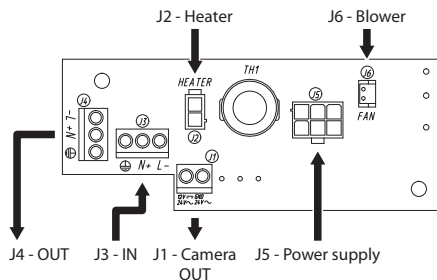
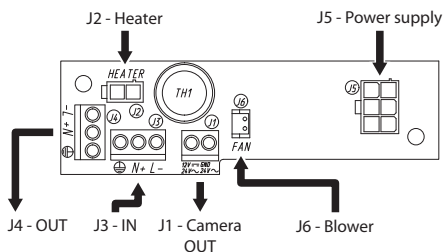

Fig. 05 VERSO.
Fig. 06 VERSO COMPACT.
Remove the conductors protective sheathing and connect them to terminal J3 (Fig. 05, page 8 and Fig. 06, page 8).
Insert the 2-pin connector at the end of the cable into the correspondent support circuit socket, identified by J2 HEATER (Fig. 05, page 8 and Fig. 06, page 8).
Insert the 6-pin connector at the end of the cable into the correspondent one on the support circuit, identified by J5 (Fig. 05, page 8 and Fig. 06, page 8).
**⚠ The blower kit should be assembled according to the instructions (Fig. 05) to ensure a correct air circulation inside the housing.**
Insert the 2 pin connector at the end of the cable into the corresponding one indicated by J6 (FAN) on the support circuit (Fig. 05, page 8 and Fig. 06, page 8).